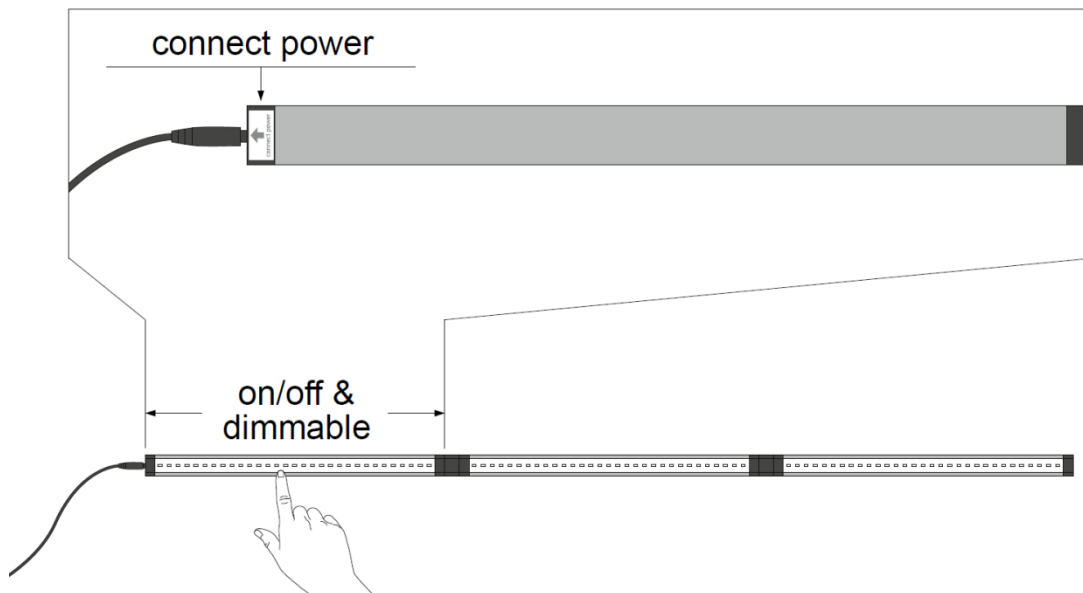

Fig. 3: On and off function / dimming function by touching the marked LED strip
3. After connecting the power plug please switch on the marked strip by touching the metal shell (see Fig. 3). By repeatedly touching the metal shell, the light intensity can be gradually increasing.